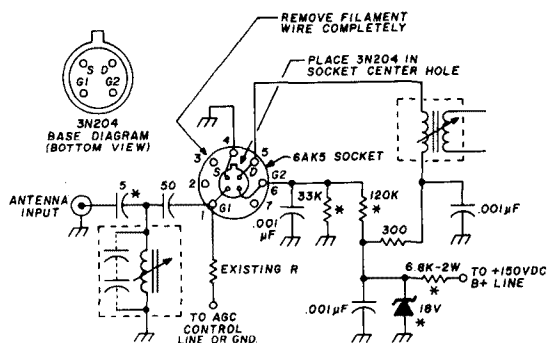

fig. 3. Modified receiver rf amplifier using a 3N204 dual-gate mosfet. Components marked with an asterisk are new.
7. Using the 3N204 basing diagram in fig. 3, make the
8. Disconnect the antenna input lead and reconnect it to the top of the rf input coil as shown in fig. 3.